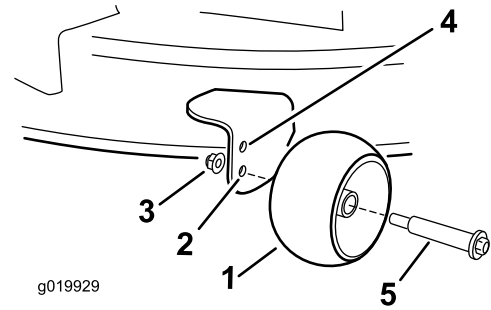

Figure 20
- Upper hole—use this position with the mower deck in the 63 mm (2-1/2 inch) and below the height-of-cut positions (Figure 20).
- Lower hole—use this position with the mower deck in the 76 mm (3 inch) and above the height-of-cut positions (Figure 20).